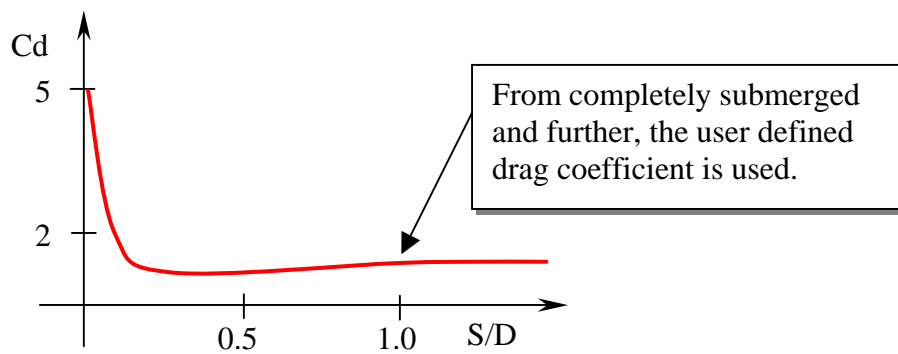
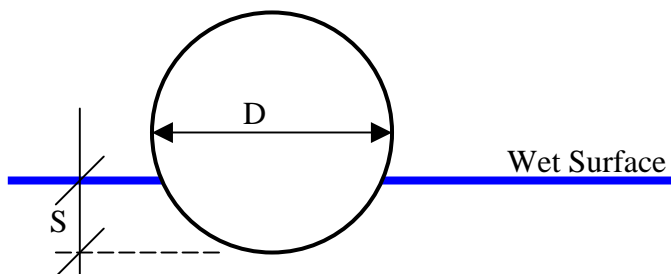

Figure 2-11 Drag coefficient as a function of submerged/Diameter ratio.
Figure 2-12 Definition of submerged part , S.
- ❑ The submerged part of the cross section, S, is computed, and the S/D ratio is used to compute the current drag coefficient. See Figure 2-11 and Figure 2-12 .